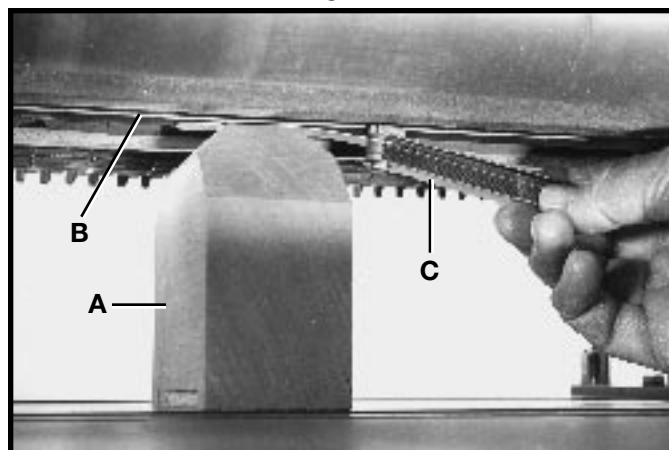

Fig. 46
3. Place gage block (A) Fig. 46, on the table, directly under the cutterhead (B). Using a .040 feeler gage (C) placed on top of the gage block (A), raise the table until the cutterhead knife just touches feeler gage (A) when the knife is at its lowest point. **NOTE:** Do not move the table any further until the adjustment is complete.